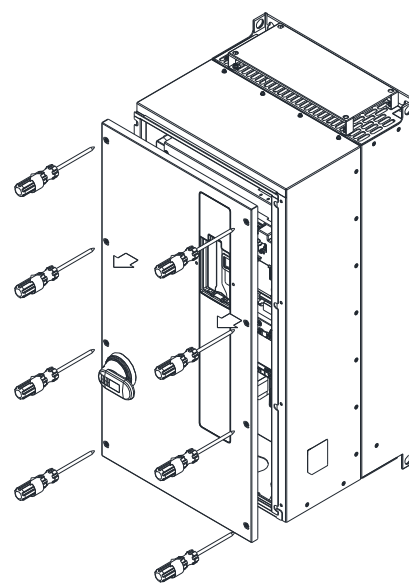

Figure 6-17
- 2) Loosen the screw and press the tabs on both sides to remove the cover. (As shown in Figure 6-17)